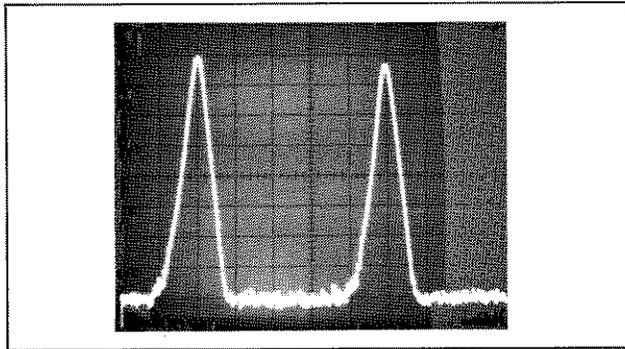
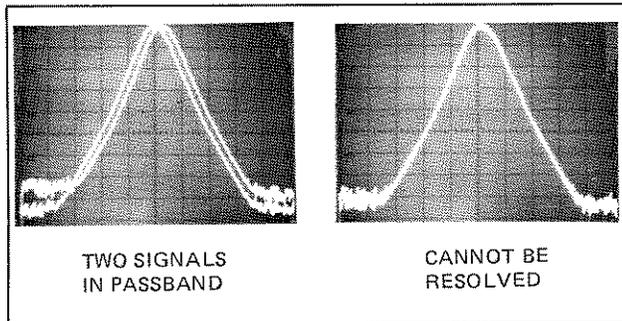
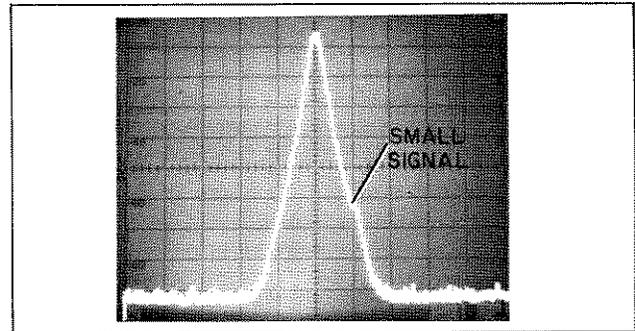

Figure 3-16. Response of CW Signals.
Figure 3-17. Two Signals in Passband.
Figure 3-18. Large Signal Hides Small Signal.
**3-87. Resolution.** Resolution is the ability of the analyzer to separate signals that are closely spaced in frequency. An important point here is that the response of the analyzer to a CW signal is an amplitude vs. frequency plot of the IF Filter (Figure 3-16). The width and shape of the filter skirts are, therefore, the major limitations of resolution. If two CW signals appear in the passband ( $\pm 3$  dB points) simultaneously, they cannot be separated (Figure 3-17). If two signals differing widely in amplitude are both inside the filter skirts, the response of the larger signal can hide or obscure that of the smaller signal (Figure 3-18). If the